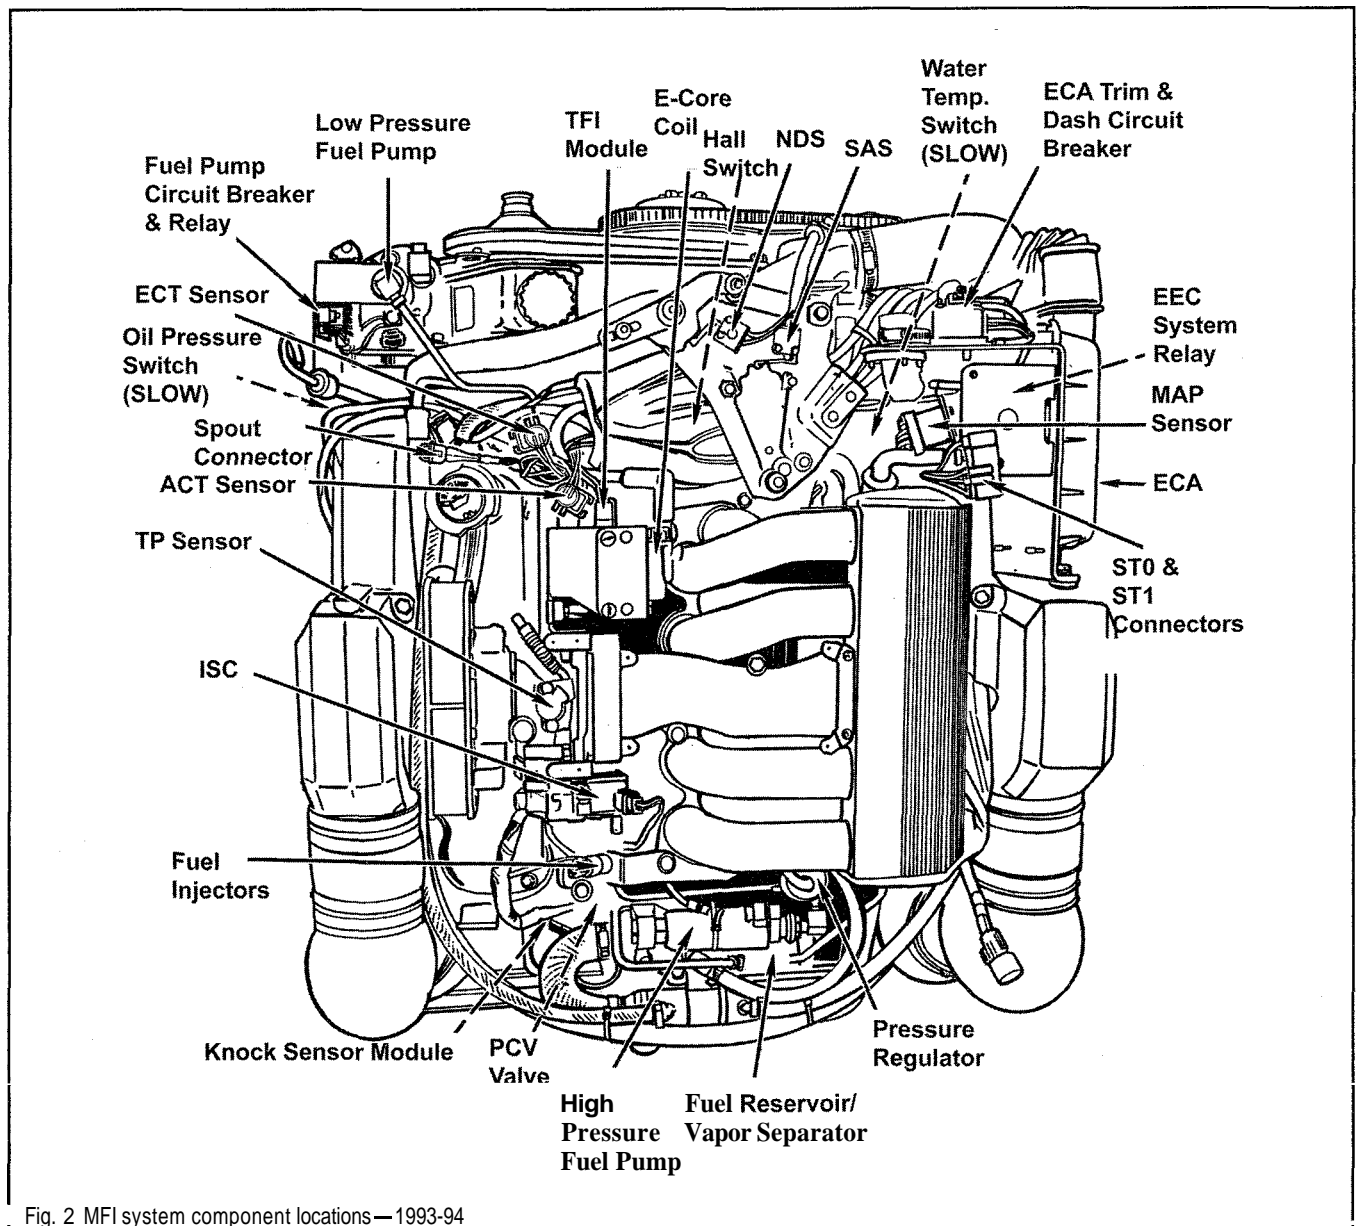

Fig. 2 MFI system component locations—1993-94
- ◆ See Figures 2 and 3
- ◆ See Figures 2,3 and 4
† See Figures 2, 3, 9 and 10
◆ See Figures 2, 3, 12 and 13